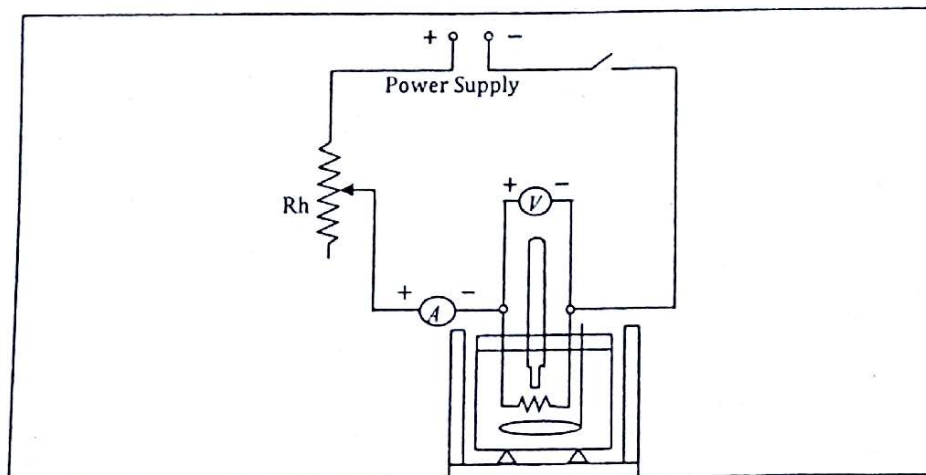

Fig. 7.1: Experimental setup for measuring the mechanical equivalent of heat
The mechanical equivalent of heat  $J$  is the amount of electrical energy required to generate one calorie of heat. If  $E$  volt be the potential difference across a conducting coil (Fig. 7.1) and  $i$  ampere be the current flowing through the coil for  $t$  seconds, then the electrical energy in the coil is  $Eit$ . If this energy is converted into heat  $H$  (calories) then the mechanical equivalent of heat  $J$  is
4. Complete the circuit as shown in Fig. 7.1. Switch on the circuit temporarily and adjust the control knob of the power supply until the current is about 2 amperes. Then switch off the circuit and stir the water until a steady temperature is shown by the thermometer. Record this temperature as initial temperature.